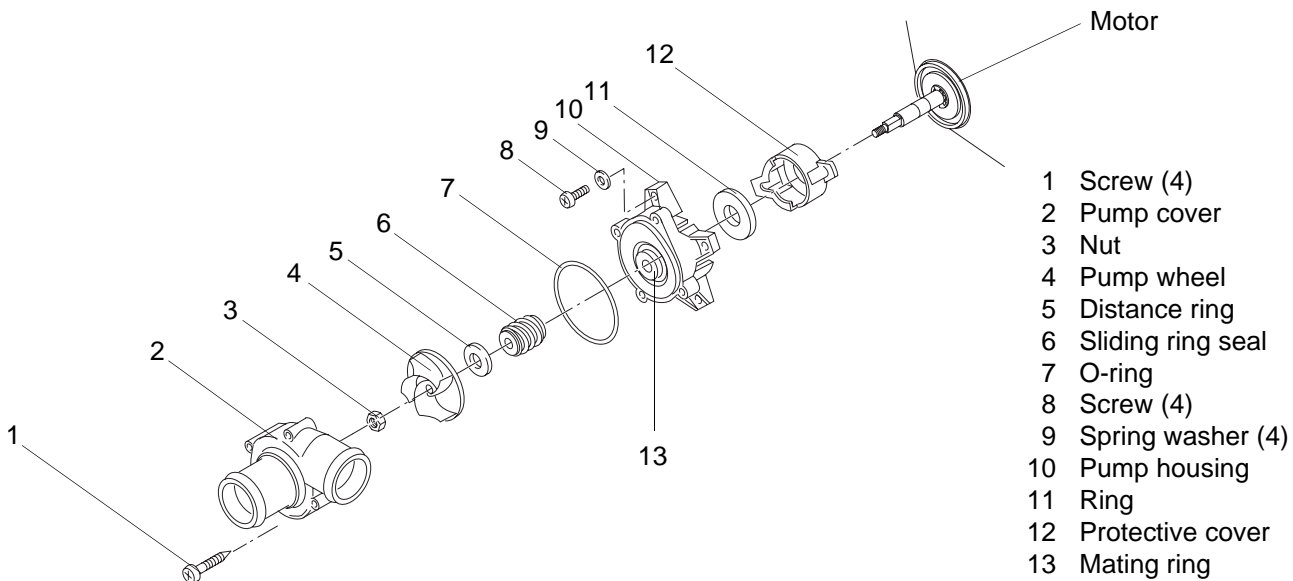

Fig. 2 Disassembly
- 1. Remove screws (1, Fig. 2) from pump cover (2).
- 2. Remove pump cover (2), examine for damage and discard as required (individual spare part).
- 3. Arresting pump wheel (4) remove nut (3) from motor shaft and discard.